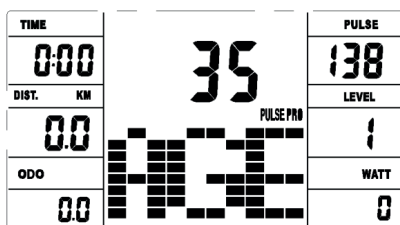

Figure 18
- B. Use the UP/DOWN buttons to set the user's age (Fig. 18). Press ENTER to confirm.